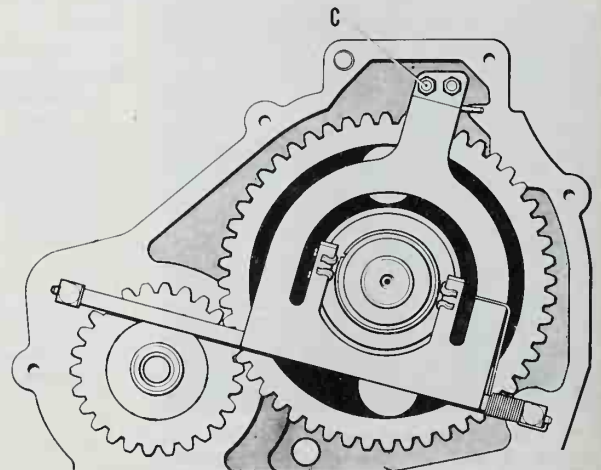

Fig. L7—To align fuel pump calibration mark, adjust governor link at (C).
Clearance between thrust sleeve and step on camshaft is 5.0 mm (A - Fig. L6) with fuel pump calibration mark (B) lined up. Adjust by altering the length of governor link (C - Fig. L7).